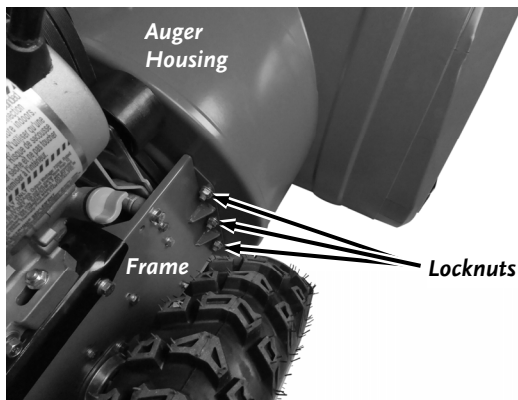

Figure 49
5. Remove the three Locknuts from the right side of the Transmission Box using a 13mm Wrench (**Figure 49**).
12. Install the Locknuts that secure the right side of the Frame to the Auger Housing (**Figure 49**).